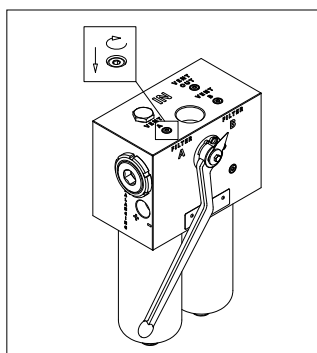

fig. 4
- (Fig. 4) Immediately screw the breather plug in